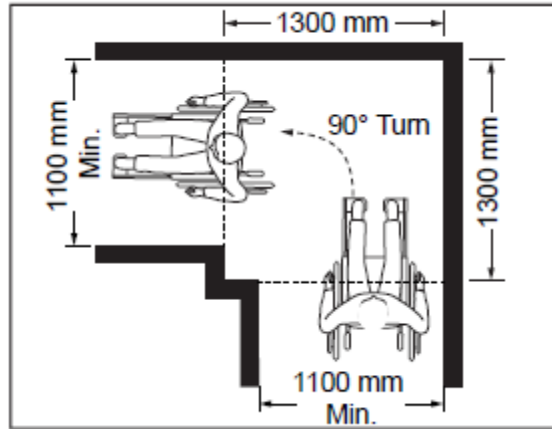

Figure 58: Space Required for a 90° Turn
- For 90 degree turns (Figure 58) are: